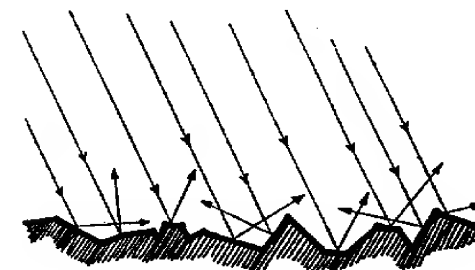

Fig. 210
Apart from the regular type of reflection which occurs at mirror surfaces, light is reflected from all kinds of surfaces. Most surfaces if viewed through a microscope would appear rather like Fig. 210, so that light is reflected in all directions. It is because light is reflected from objects that we see them. If no light is reflected from an object, the object cannot be seen. What kind of surface reflects most light? (15)